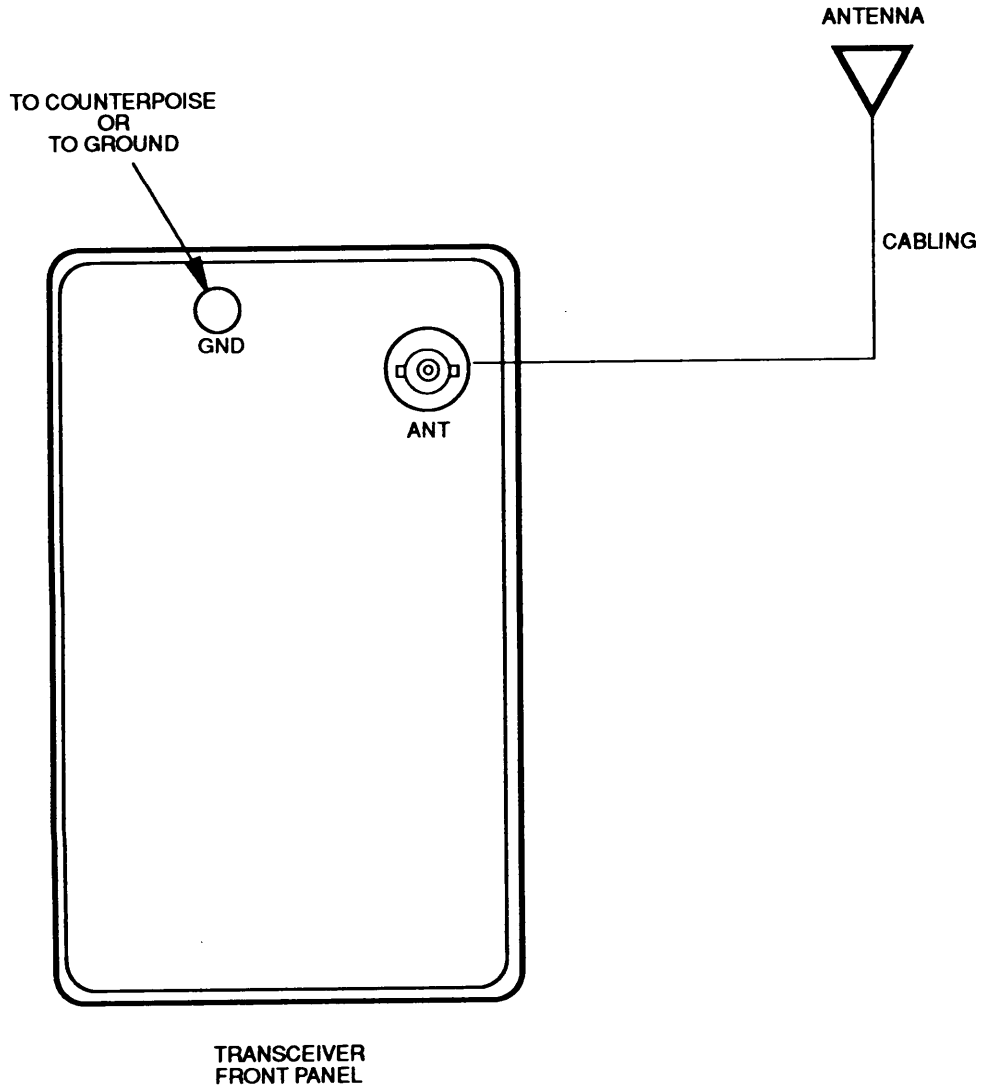

FIGURE 1-4. Radio Set - AN/PRC-132 typical antenna attachment
- f. SORAK (Special Operations Radio Antenna Kit). The SORAK contains a variety of antennas for use with the AN/PRC-132. SORAK antennas are connected to the transceiver front panel at the ANT BNC-type connector. Longwire antennas are connected to the ANT BNC-to-binding post adapter (which is connected to the ANT connector) and to the GND binding post for grounding or counterpoise. Refer to Figure 1-4.